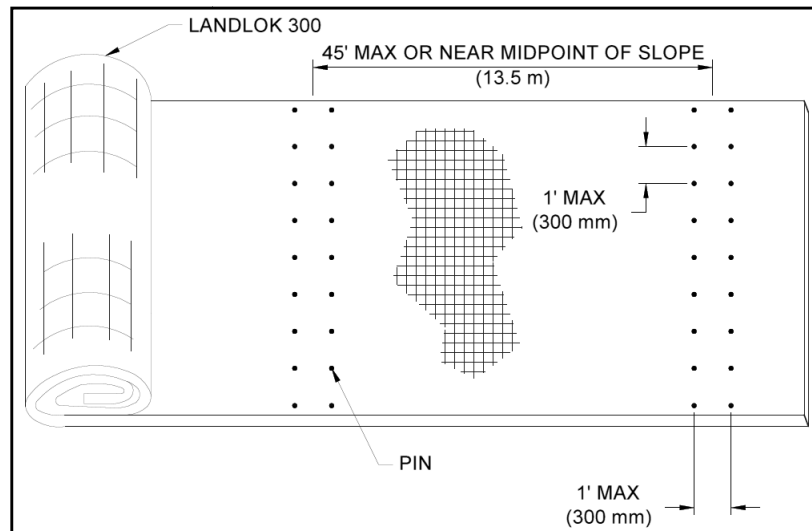

Figure 15: Simulated Check Slot
12. Overlap the upstream Landlok 300 panels a minimum of 6 in (150 mm) overlap of the downstream Landlok 300 panels following the roll end anchoring requirements outlined below (Figure 15).
- For channel lengths greater than 45 ft (13.7 m), install simulated check slots. This method includes placing two rows of pins 12 in (300 mm) apart on 12 in (300 mm) centers at 45 ft (13.7 m) maximum intervals or across the midpoint of the slope for slope lengths less than 60 ft (18.2 m) (Figure 15).